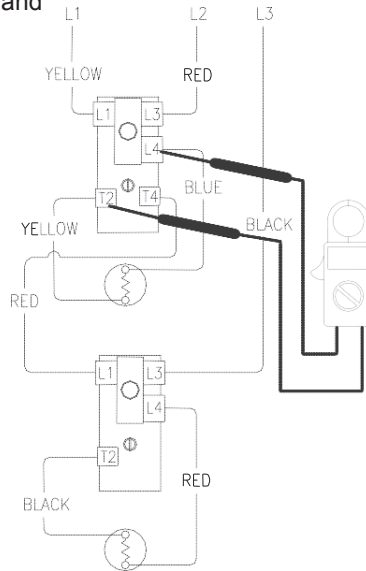

Figure 13
4. Check across terminals L4 and T2 of upper thermostat (see Figure 13).
4. See Figure 13 above, check voltage across terminals L4 & T2 of upper thermostat.
4. Check across terminals L4 and T2 of upper thermostat (see Figure 13 on page 19).